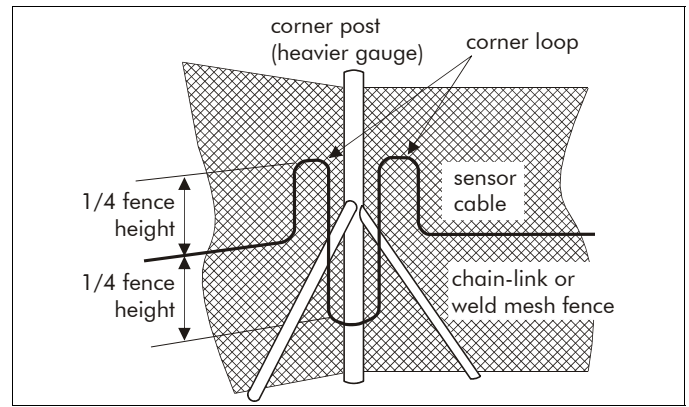

Figure 6 Corner loop
- Install a corner loop at all fence corners and at any heavy gauge fence posts (See Figure 6).